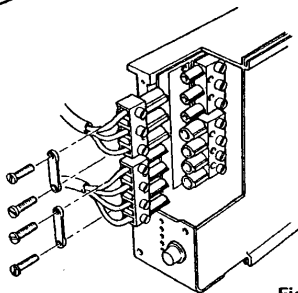

Fig. 105
4. Release the supply and pump feed cables from the cable board (Fig. 105).